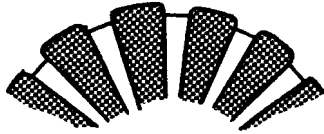

Fig. 120. Checking of the commutator
3. Check that the commutator's insulation lies at least 0.2 mm (.0078 in) below the laminated surface. Correct if necessary. See Fig. 120.